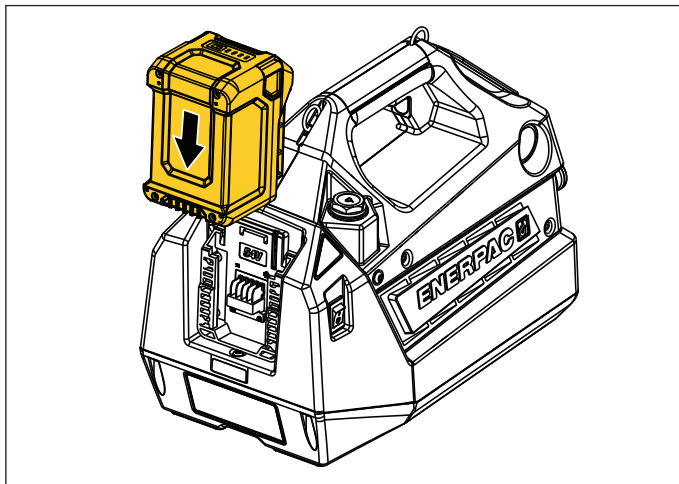

Figure 7: Battery - Install
- **To install battery on pump:** Slide the battery down onto the battery interface at the rear of the pump. Make sure it latches securely into place. See Figure 7.